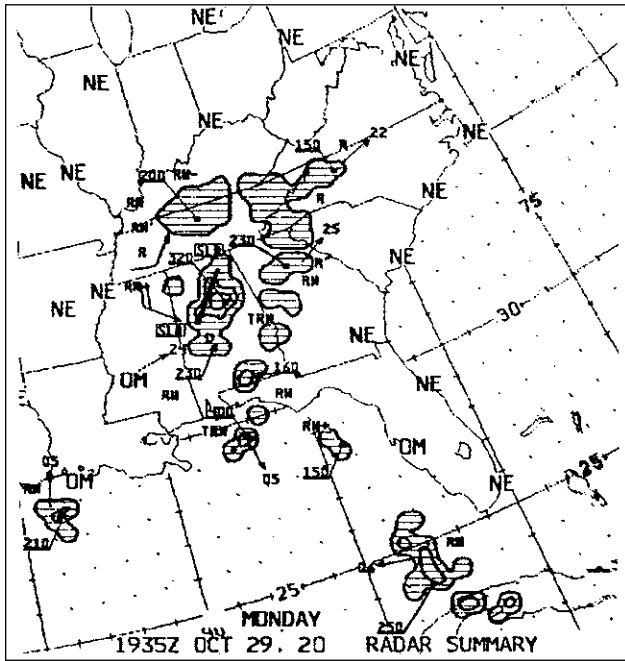

Figure 22-24. Radar summary chart.
Figure 22-24 is part of an actual radar summary chart. The shading shows radar echo areas and the contours outline intensities. For instance, over north central Alabama, the intensities are building toward the center of the area with tops at 32,000 (320). Bases would be designated with a bar over the height value (in hundreds). Note also that there may be a squall line in that area as indicated by the solid line. The direction and velocities of movement of areas and lines are shown by pennants (that Alabama line is moving east-southeast at 20 K).